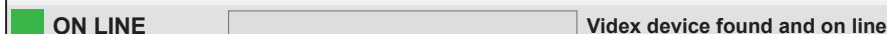

Fig. 127
- **ON LINE:** see **Fig.127**, this indicates that the GSM module has been detected by the PC software and is currently connected.
status of the PC software is showing as **ON LINE** (refer to **Fig.127** and follow the notes **GSM panel detection** and **Connecting the Software to the GSM module (ON LINE)** on page 15). Also check the physical connection between the PC and GSM module. In the case of the **GSM4K PRO series**, the **Art.2270 GSM module** and **Digital GSM** this can either be a connection by USB or by RS485 connection and for the **GSMVRK series** USB only (refer to connection diagrams on pages 10 - 13, **Fig.5 - Fig.11**).
- Close down and then reload the **GSMSK PC software**, to see if the software re-establishes a connection to the GSM module (i.e. ensure that the software shows the connection status is showing as **ON LINE**, refer to **Fig.127**).